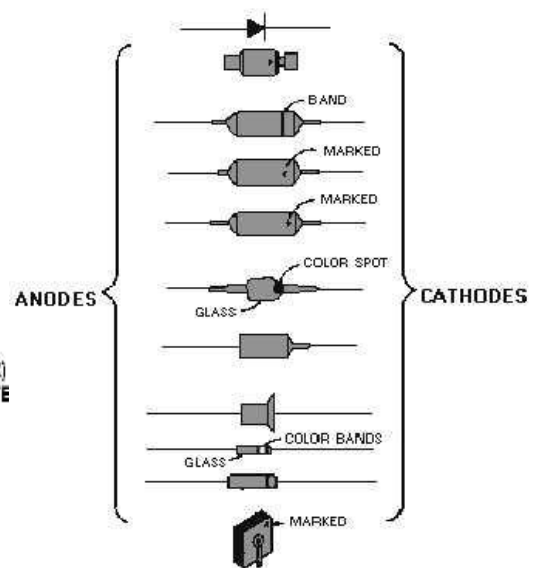

Fig. 5: Identification of Cathode
When working with different types of diodes, it is also necessary to distinguish one end of the diode from the other (anode from cathode). For this reason, manufacturers generally code the cathode end of the diode with a "k," "+," "cath," a color dot or band, or by an unusual shape (raised edge or taper) as shown in Fig. 5. In some cases, standard color code bands are placed on the cathode end of the diode. This serves two purposes: (1) it identifies the cathode end of the diode, and (2) it also serves to identify the diode by number.